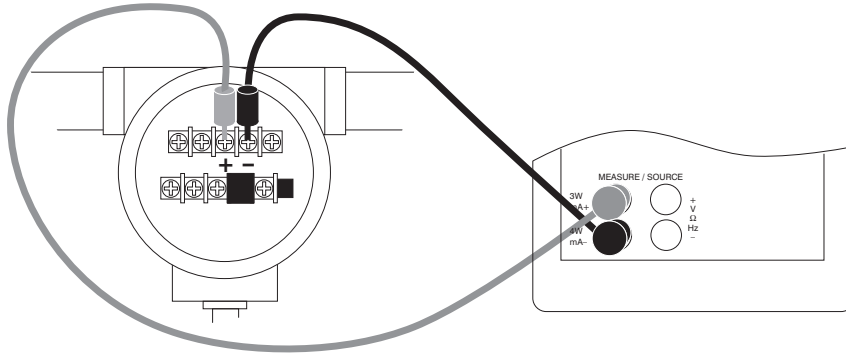

Figure 7. Connection Using Current Loop
2. Connect leads as shown in Figure 7.